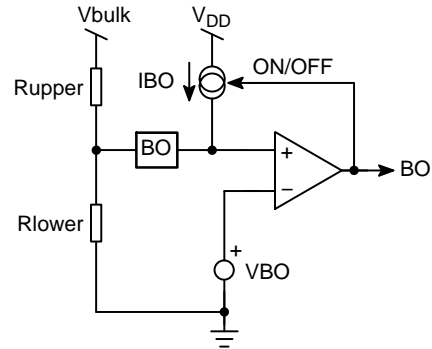

Figure 40. The Internal Brown-out Configuration with an Offset Current Source
The Brown-Out circuitry (BO) offers a way to protect the resonant converter from low DC input voltages. Below a given level, the controller blocks the output pulses, above it, it authorizes them. The internal circuitry, depicted by Figure 40, offers a way to observe the high-voltage (HV) rail. A resistive divider made of R_{upper} and R_{lower} , brings a portion of the HV rail on Pin 5. Below the turn-on level, the 28 μ A current source IBO is off. Therefore, the turn-on level solely depends on the division ratio brought by the resistive divider.